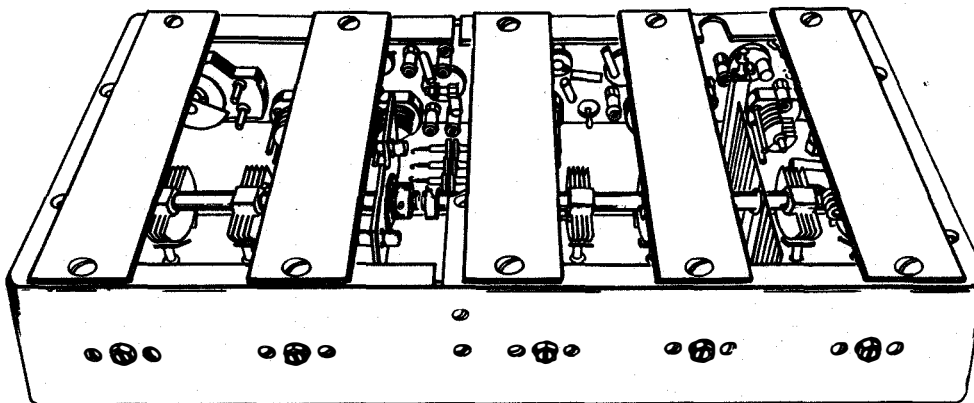

Figure 7-10. Shielding for Alignment of Radio Frequency Section
Step 2. For shielding purposes during realignment, and to permit access to the inductive loops, the side shield must be replaced with five metal strips approximately one inch wide by four and one-half inches long. Drill screw clearance holes through the strips and then fasten them in place with the screws previously removed. The section with the temporary shielding strips is shown on Figure 7-10.